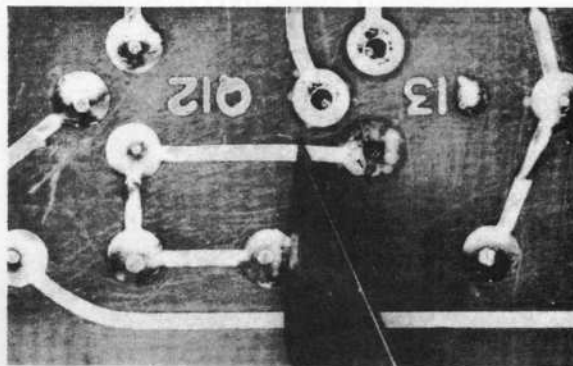

FIGURE 4. TRIMMING DAMAGED PAD
STEP 2—Trim the damaged/lifted land and conductor with a PACE Pro/Vise™ at point of good bond (see Figure 4). (**NOTE:** If coating is present, remove coating from area that is to be repaired with the PACE Minichine™ Abrasive Wheel. Double-sided boards will require preparation to both sides).